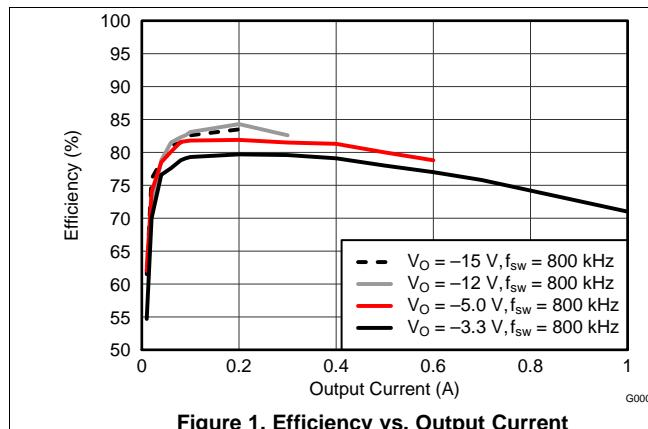
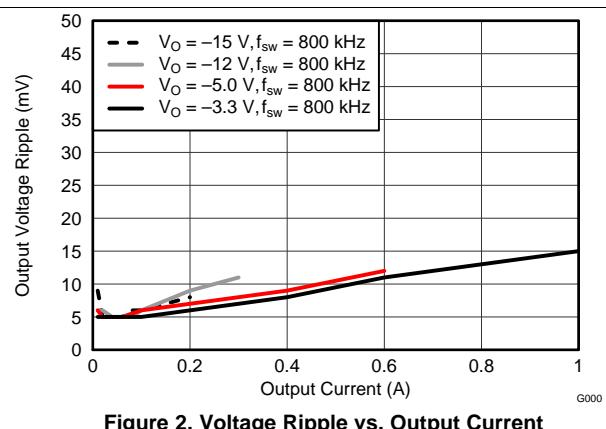
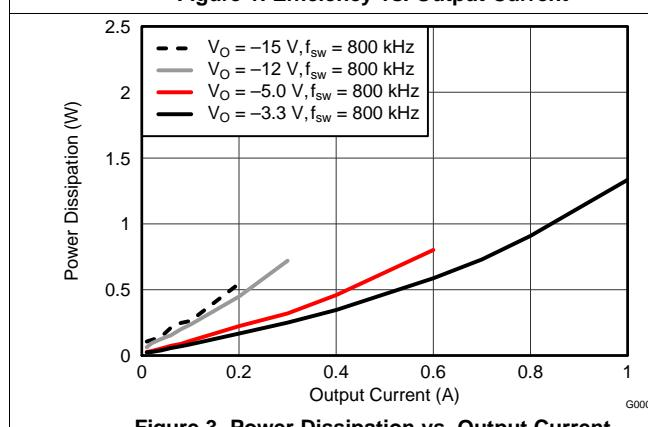

Figure 1. Efficiency vs. Output Current
Figure 2. Output Voltage Ripple vs. Output Current
Figure 3. Power Dissipation vs. Output Current
- (1) The electrical characteristic data has been developed from actual products tested at 25°C. This data is considered typical for the converter. Applies to Figure 1, Figure 2, and Figure 3.